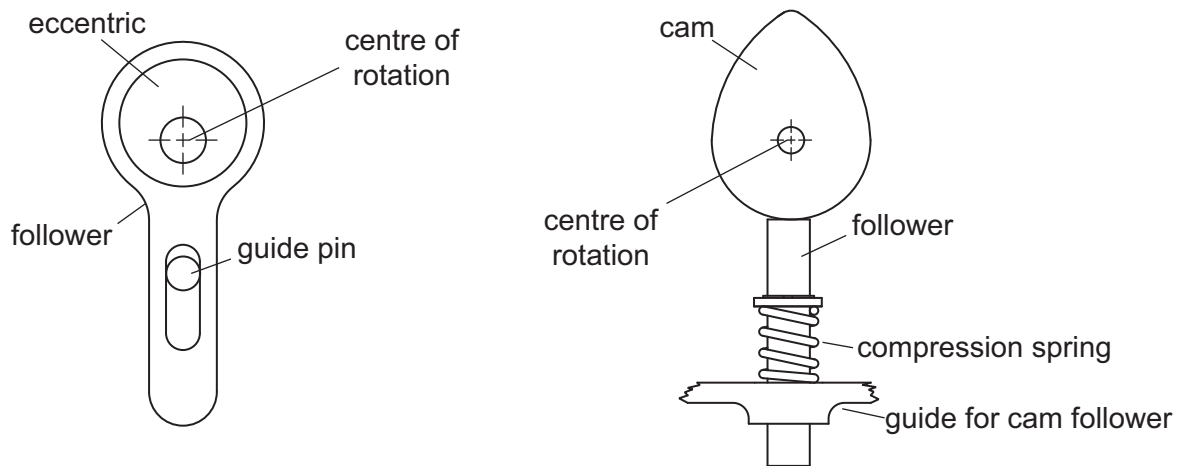

Fig. 11.3
- (c) Fig. 11.3 shows an eccentric mechanism and a cam and follower.
- (ii) Give **one** benefit of the eccentric mechanism shown in Fig. 11.3.